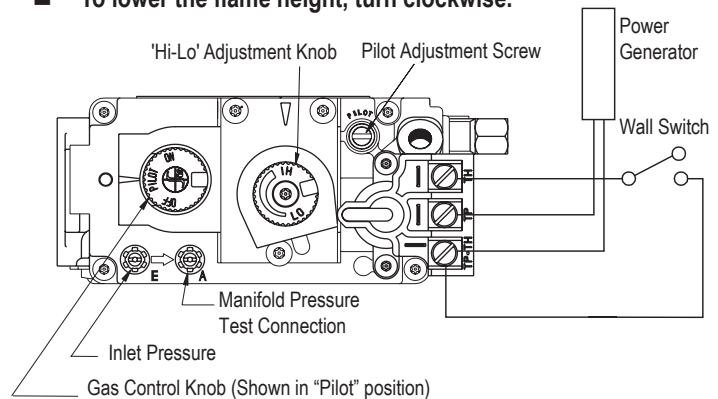

Figure 27. 'Hi-Lo' Adjustment on the SIT Nova 820 gas valve,
The L52DF* is equipped with an adjustable burner, allowing you to raise or lower the flames. To adjust the flames, locate the black knob marked 'Hi-Lo', in the centre of the gas control valve (See Figure 27).
1. Locate Pilot Adjustment Screw. (See figure 27 or 28.)
Pilot won't ignite	Disconnect remote wires and try to light pilot. If pilot now works, remote connections are faulty. Check wiring diagram figure 27.
Main burner will not ignite	1. Check wiring (see figure 27). 2. Check wall switch for proper connection.